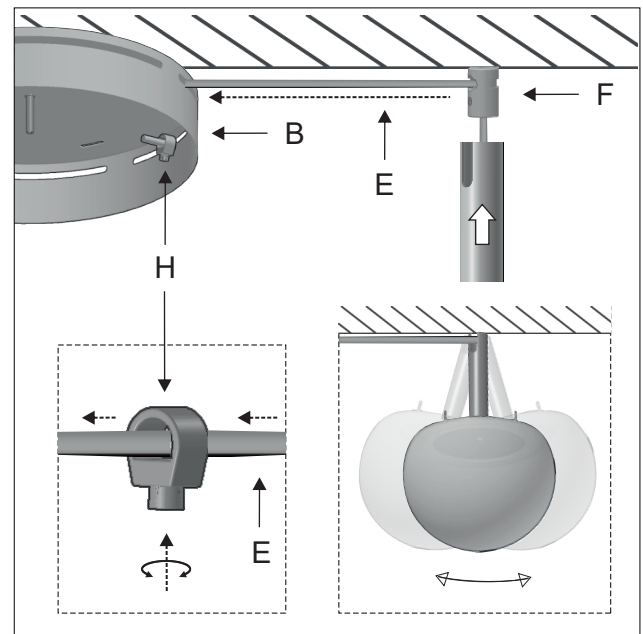

Figure 6
6 - Run the cable (E) coming from the cable holder (F) through the mounting bracket's lateral slot (B) and fix it inside of the mounting bracket with the cable holder (H). Leave some play for the cables to allow for freedom of movement when placing the acoustic panel. Repeat the process for each of the lamps. Figure 6